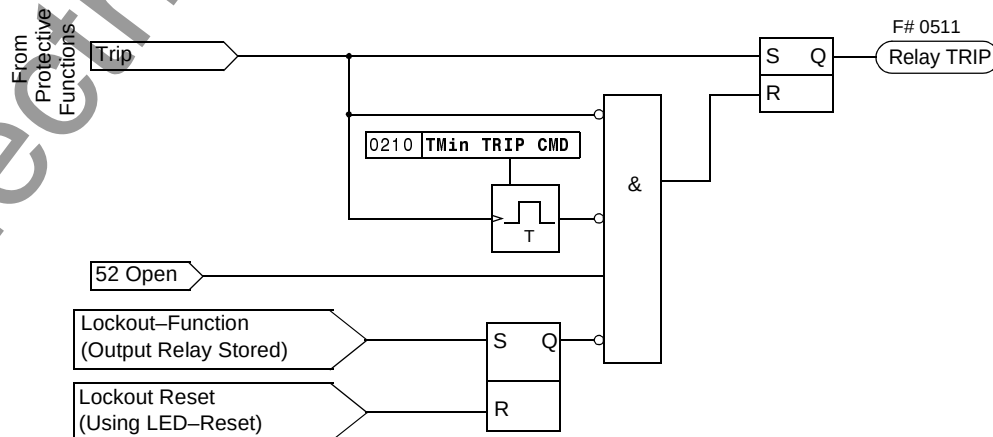

Figure 6-69 Terminating the Trip Signal
- All trip signals from a protection function hold the 0511 ReLay TRIP function, and start the minimum trip signal duration timer (set at address 0210 **TMin TRIP CMD**, see Figure 6-69). This trip signal duration timer ensures the trip signal is transmitted to the circuit breaker for a sufficient amount of time, even if the function which issued the trip signal drops out quickly. The trip signal is only terminated after all protection functions drop out AND the minimum trip signal duration expires.